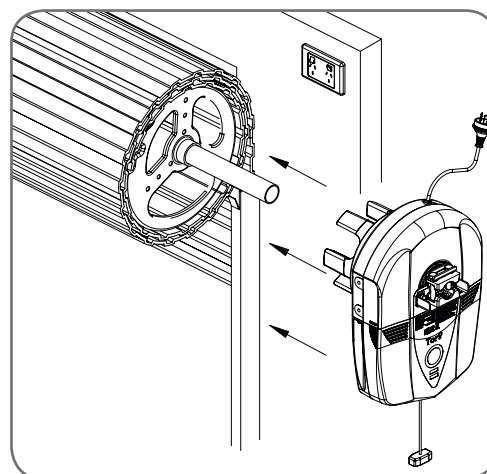

Fig 6.2
- b. Slide the opener over the door axle and into the drum of the door **(Fig. 6.2)**.